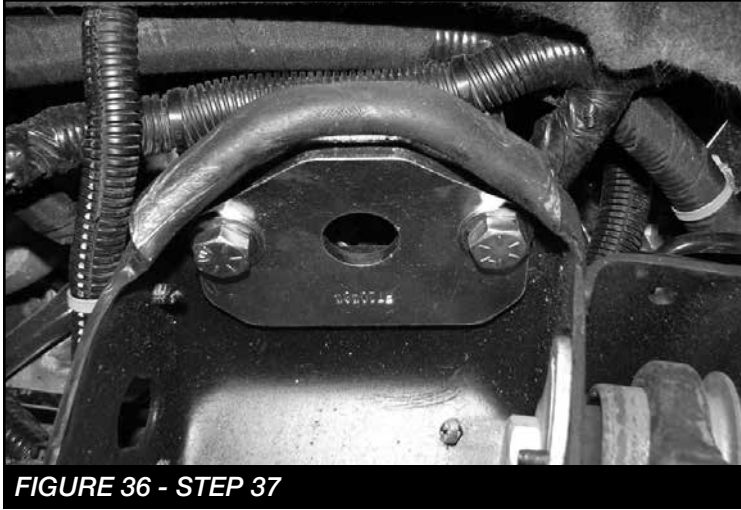

FIGURE 36 - STEP 37
37. Install FT20484 (upper shock plate) into the upper shock bucket using the supplied 1/2" X 1-1/4" hardware. Torque to 127 ft-lbs. Repeat on passenger side **SEE FIGURE 36** **NOTE: If installing resi shocks refer to shock instructions for resi mount installation.**